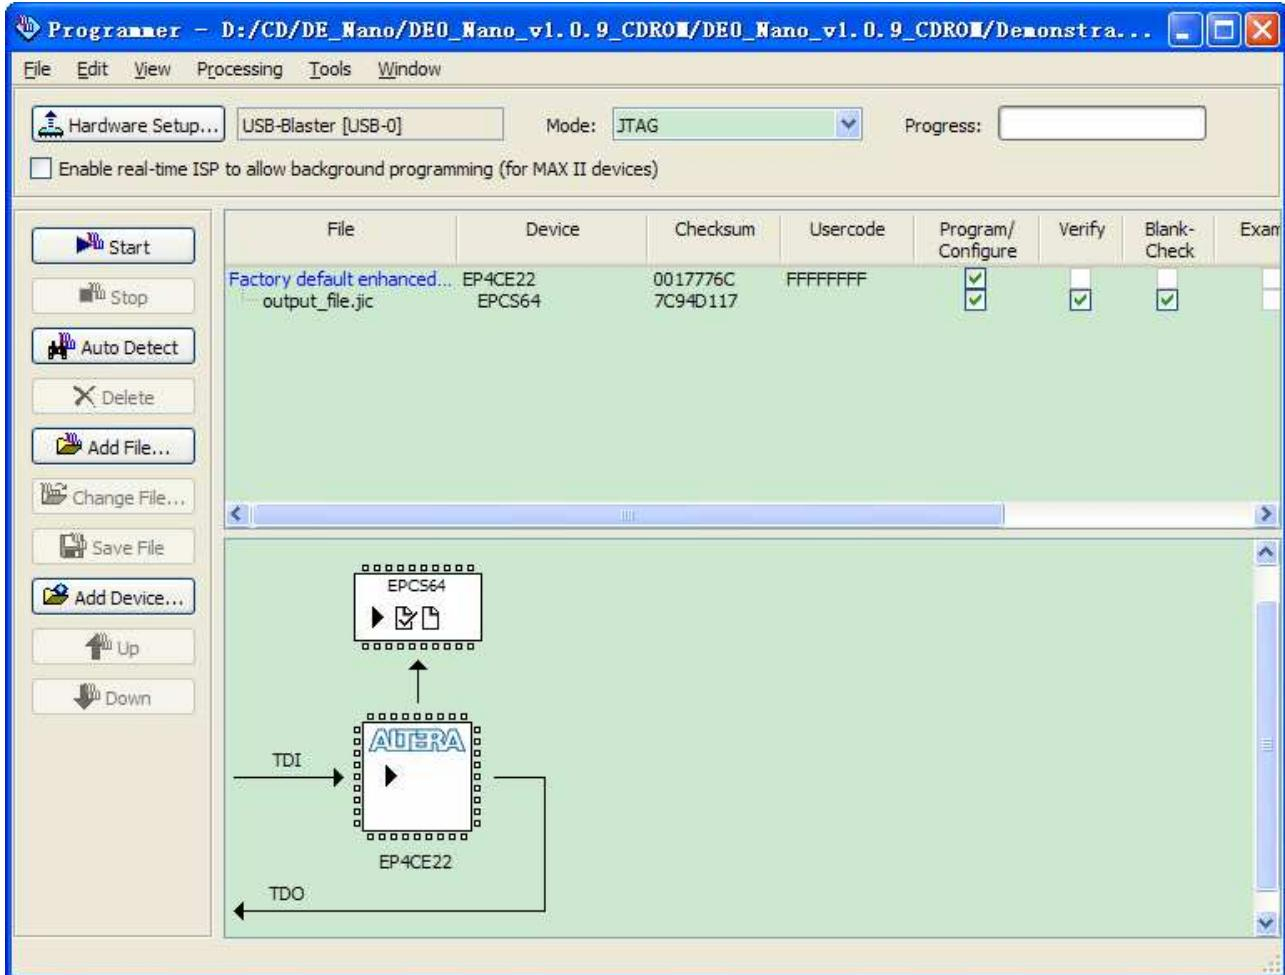

Figure 9-6 Quartus II programmer window with one JIC file
- Program the serial configuration device by checking the corresponding **Program/Configure** box, a Factory default SFL image will be load (See Figure 9-6).